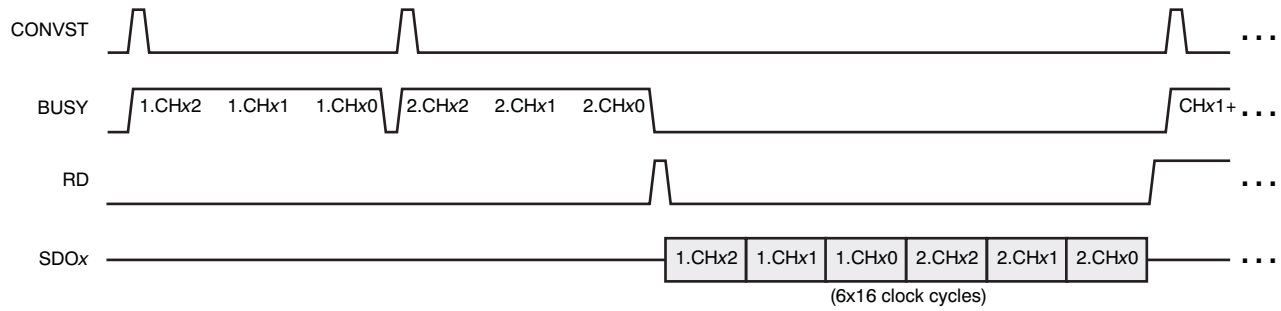

**Figure 44. Sequencer Modes**
The ADS8363, ADS7363, and ADS7223 feature a programmable sequencer that controls the switching of the ADC input multiplexer in pseudo-differential, automatic channel-selection mode only. When used, a single read pulse allows reading of all stored conversion data. A single CONVST is required to control the conversion of the entire sequence. If the sequencer is used, CONVST and RD must be controlled independently (see Figure 44 and Figure 45).
(1) The sequencer is used in pseudo-differential mode only; this register must be set before setting the REFCM register.
- Bits[15:14]** **S[1:0]—Sequencer mode selection (see Figure 44) in pseudo-differential mode only.**